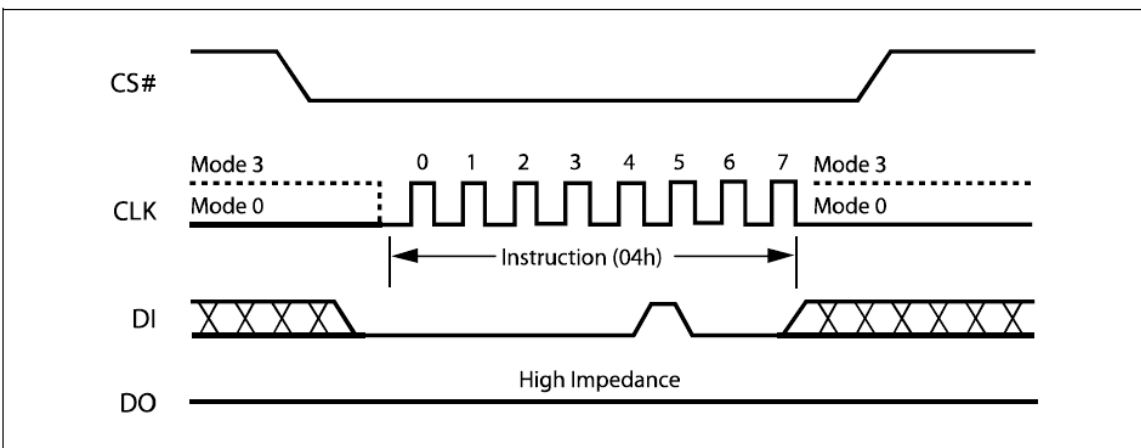

Figure 9. Write Disable Instruction Sequence Diagram
The Write Disable instruction (Figure 9) resets the Write Enable Latch (WEL) bit in the Status Register to a 0 or exit from OTP mode to normal mode. The Write Disable instruction is entered by driving Chip Select (CS#) low, shifting the instruction code “04h” into the DI pin and then driving Chip Select (CS#) high. Note that the WEL bit is automatically reset after Power-up and upon completion of the Write Status Register, Page Program (PP), Quad Input Page Program (QPP), Sector Erase, Half Block Erase (HBE), Block Erase (BE) and Chip Erase instructions.